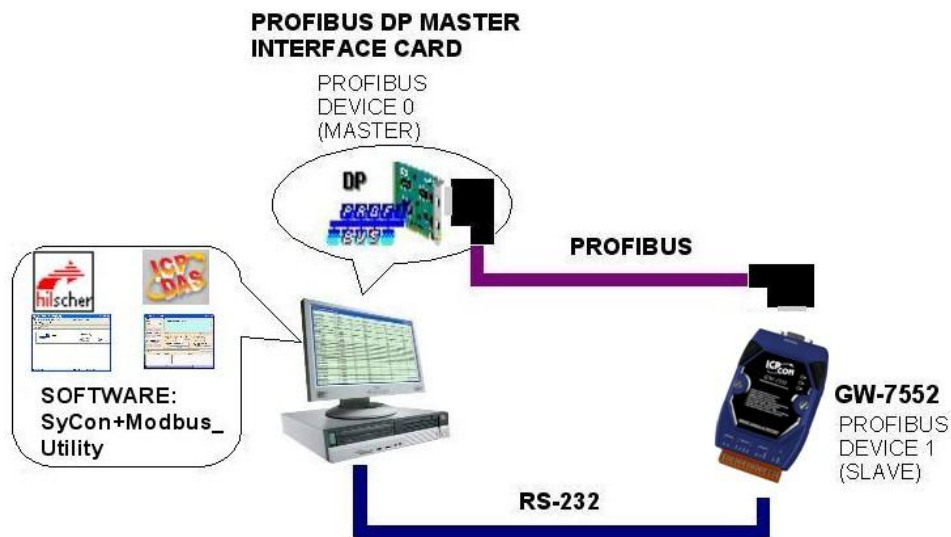

Figure 37 Wiring diagram between PC and GW-7552
- Step 2: Connect the RS232 port of the GW-7552 module to a COM port of the PC and the Profibus port to a Profibus master (*Figure 37*).